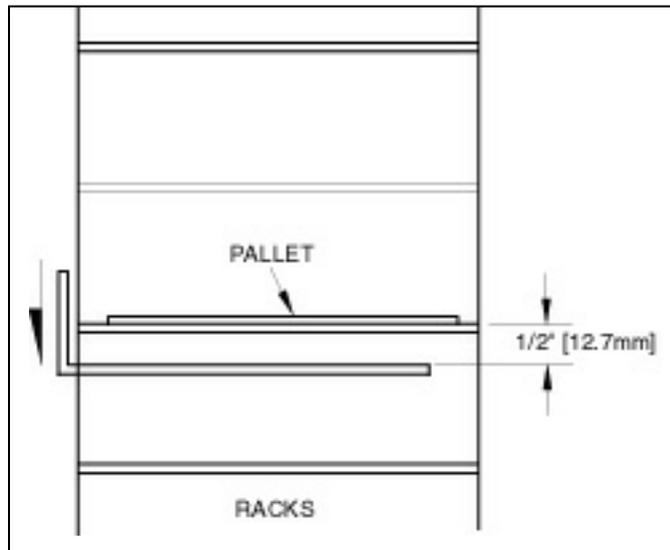

Figure 2.26 SWITCH LS-32 ADJUSTMENT.
2.2.5.7 Manually move the spade (see section 6.2) inside the rack bay. Then move spade up and down until bottom of pallet is 1/2" [12.7mm] above rack shelf (see figure 2.26). Then move cam until switch LS-32 is actuated (screen will indicate that switch has been tripped)